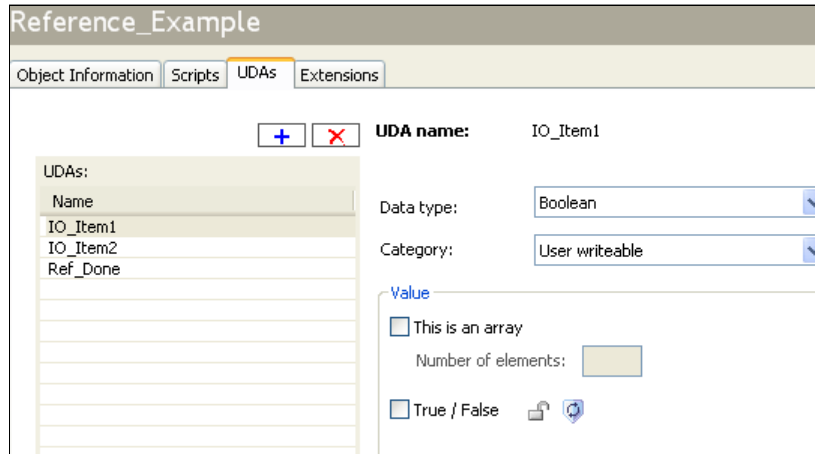

FIGURE 1: UDA REFERENCES
1. Create a Boolean UDA (Figure 1 below).